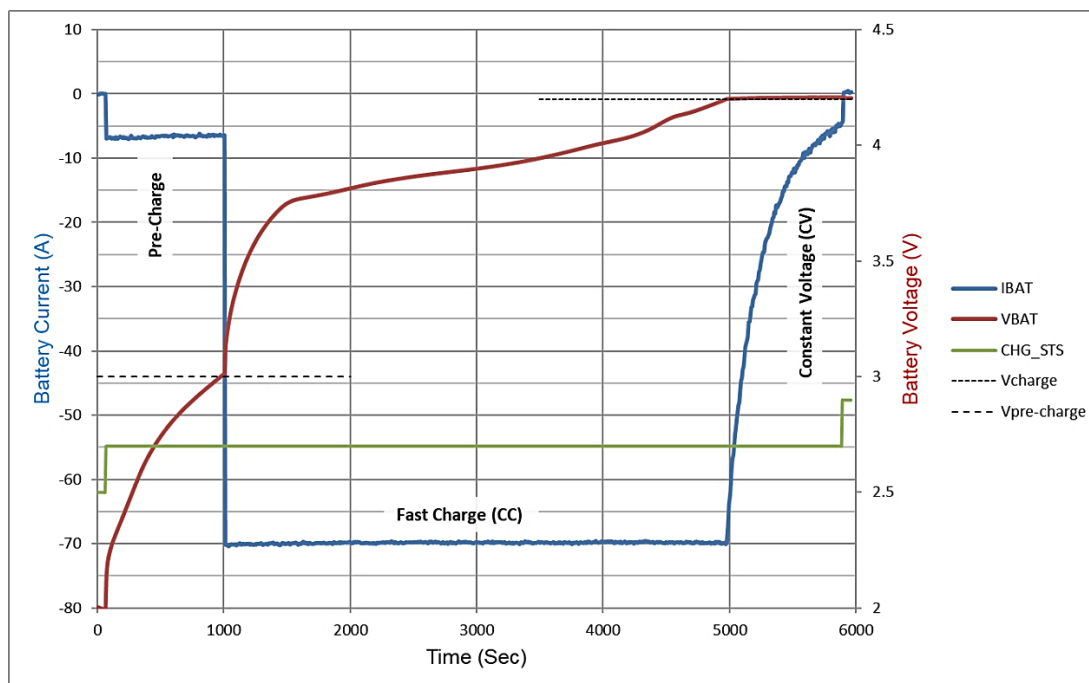

Figure 31: Example 70mAh Charge Cycle
Charging current operates in three regions based on battery voltage: pre-charge, fast charge (CC), and constant voltage (CV). These regions are shown in the typical charging example of Figure 31. The charge status (CHG_STS) is also shown transitioning from the 'charge ready' to 'charge in-progress' to 'charge done' states.